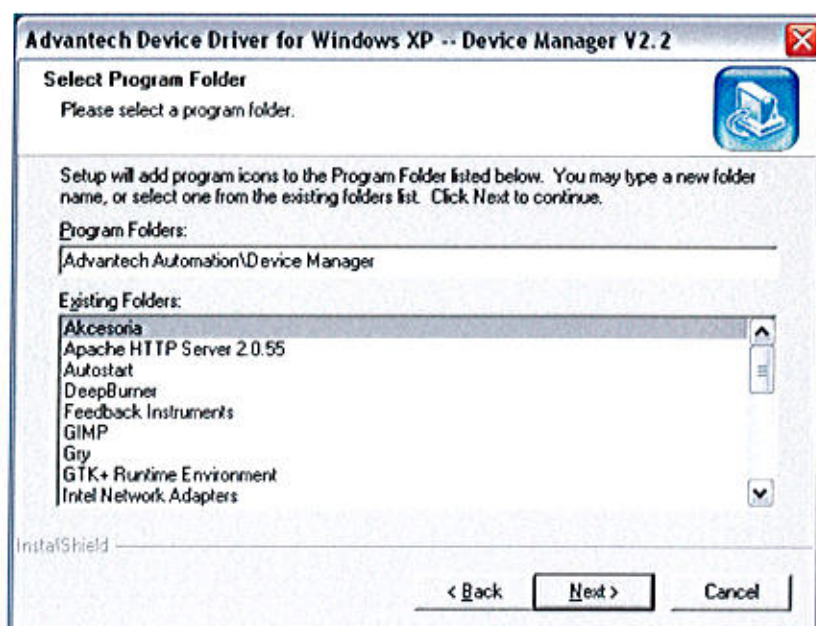

Figure 10 Program Folder Selection Window
9. Select the Typical Setup and press 'Next'. The Program Folder information window will appear (Figure 10).